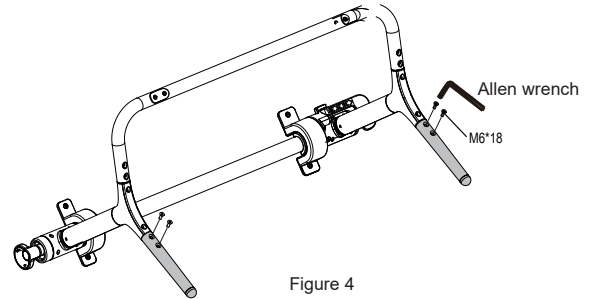

Figure 4
Step 5: Tighten the four M6*18 screws with an Allen wrench, as shown in Figure 4.